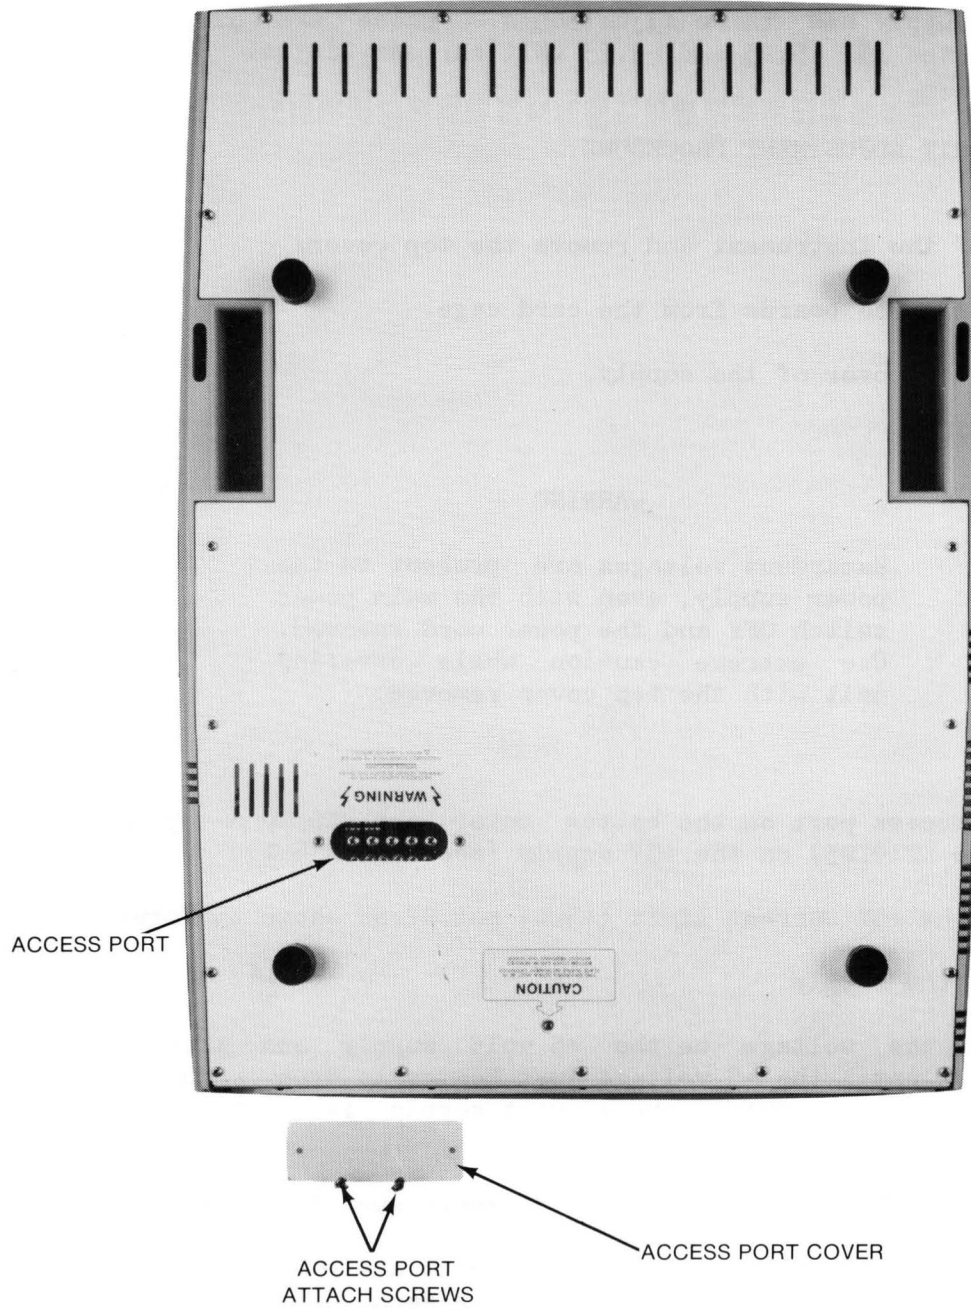

Figure 5-1. Access Port Location
- d. Remove access port on the bottom cover and apply a 45 amp load (use the ET19705) on the +5V supply (see figure 5-1).